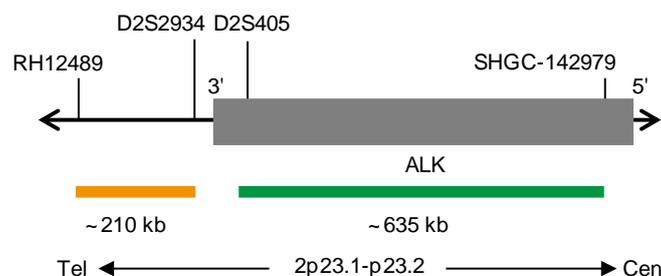
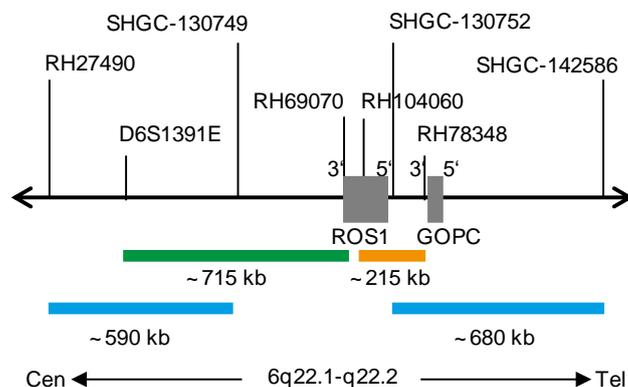

Fig. 1: ALK Probe map (not to scale)
Fig. 2: ROS1 Probe map (not to scale)
- ZyGreen (excitation 503 nm/emission 528 nm) labeled polynucleotides (~10.0 ng/ μ l), which target sequences mapping in 2p23.1-p23.2* (chr2:29,460,144-30,095,822) proximal to the ALK breakpoint region and in 6q22.1* (chr6:116,912,298-117,627,255) proximal to the ROS1 breakpoint region (see Fig. 1 & Fig. 2).
- ZyOrange (excitation 547 nm/emission 572 nm) labeled polynucleotides (~2.5 ng/ μ l), which target sequences mapping in 2p23.2* (chr2:29,174,204-29,383,335) distal to the ALK breakpoint region and in 6q22.1* (chr6:117,659,135-117,871,701) distal to the ROS1 breakpoint region (see Fig. 1 & Fig. 2).
- ZyBlue (excitation 418 nm/emission 467 nm) labeled polynucleotides, (~70.0 ng/ μ l), which target sequences mapping in 6q22.1* (chr6:116,671,642-117,260,761) proximal to the ROS1 breakpoint region co-localizing with the green-labeled ROS1 polynucleotides and in 6q22.1-q22.2* (chr6:117,765,211-118,444,005) distal to the ROS1 breakpoint region co-localizing with the orange-labeled ROS1 polynucleotides (see Fig. 2).